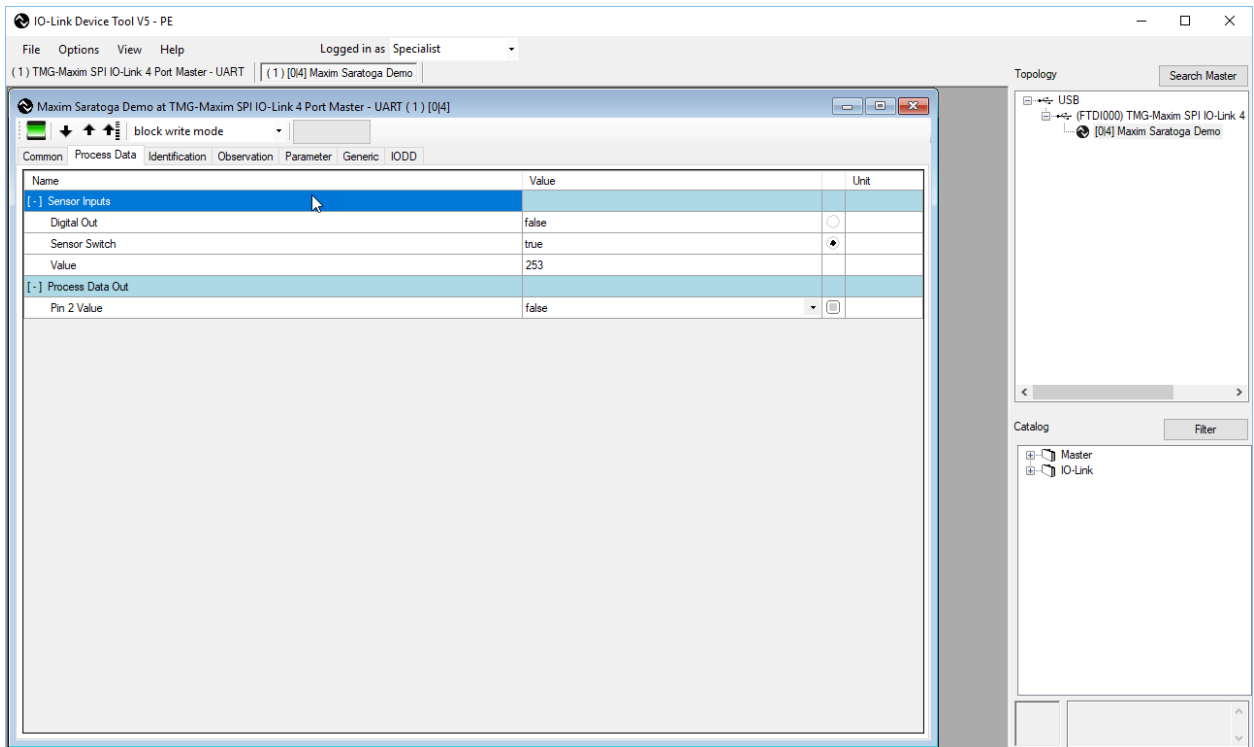

Figure 9. MAXREFDES27# process data out.
10. Select the tab **Process Data**, as shown in **Figure 9**.